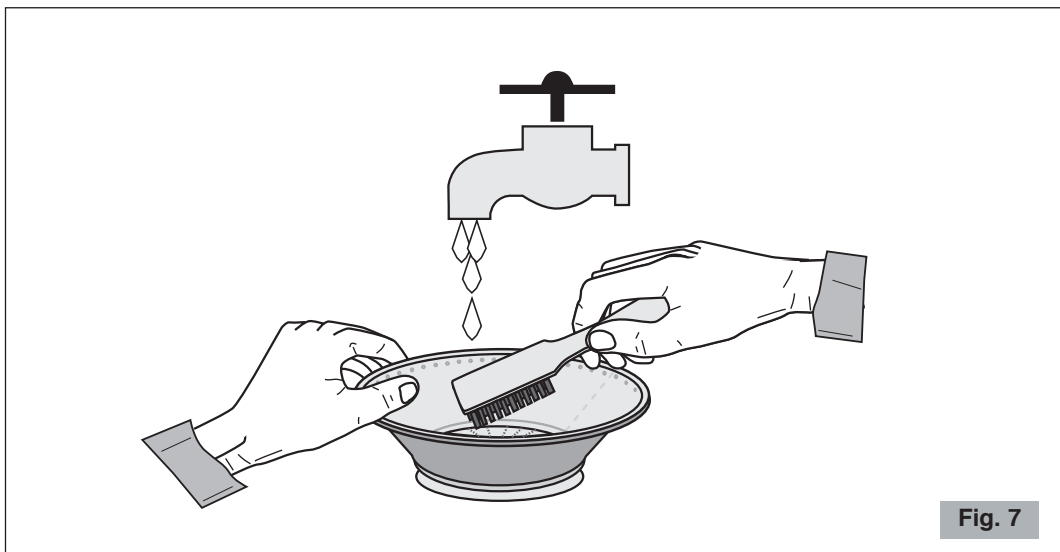

Fig. 7
- To obtain a higher yield of juice always control that the basket is well-cleaned by using a nylon brush. Put the basket under running water and use the brush to clean the inside of the strainer (see Fig. 7). Hold the basket up against the light to make sure that none of the perforations are blocked. Should the perforations of the strainer remain blocked, immerse the basket in a solution of hot water with 12% lemon juice or vinegar to loosen the blocked material. Alternatively, wash the basket in a dishwasher.
Pulp appears excessively wet and a low quantity of juice is produced.	<ul style="list-style-type: none"> <li>• Try to insert the fruit or vegetables more slowly and with less force.</li> <li>• Make sure that the basket is always carefully cleaned with a nylon brush. Put the basket under running water and use the brush to clean the inside of the strainer (see Fig. 7), holding the basket up against the light to make sure that none of the perforations are blocked. Should the perforations of the strainer remained blocked, immerse the basket in a solution of hot water with 12% lemon juice or vinegar to loosen the material that blocked them. Alternatively, wash the basket in a dishwasher.</li> <li>• Fruit too ripe.</li> </ul>